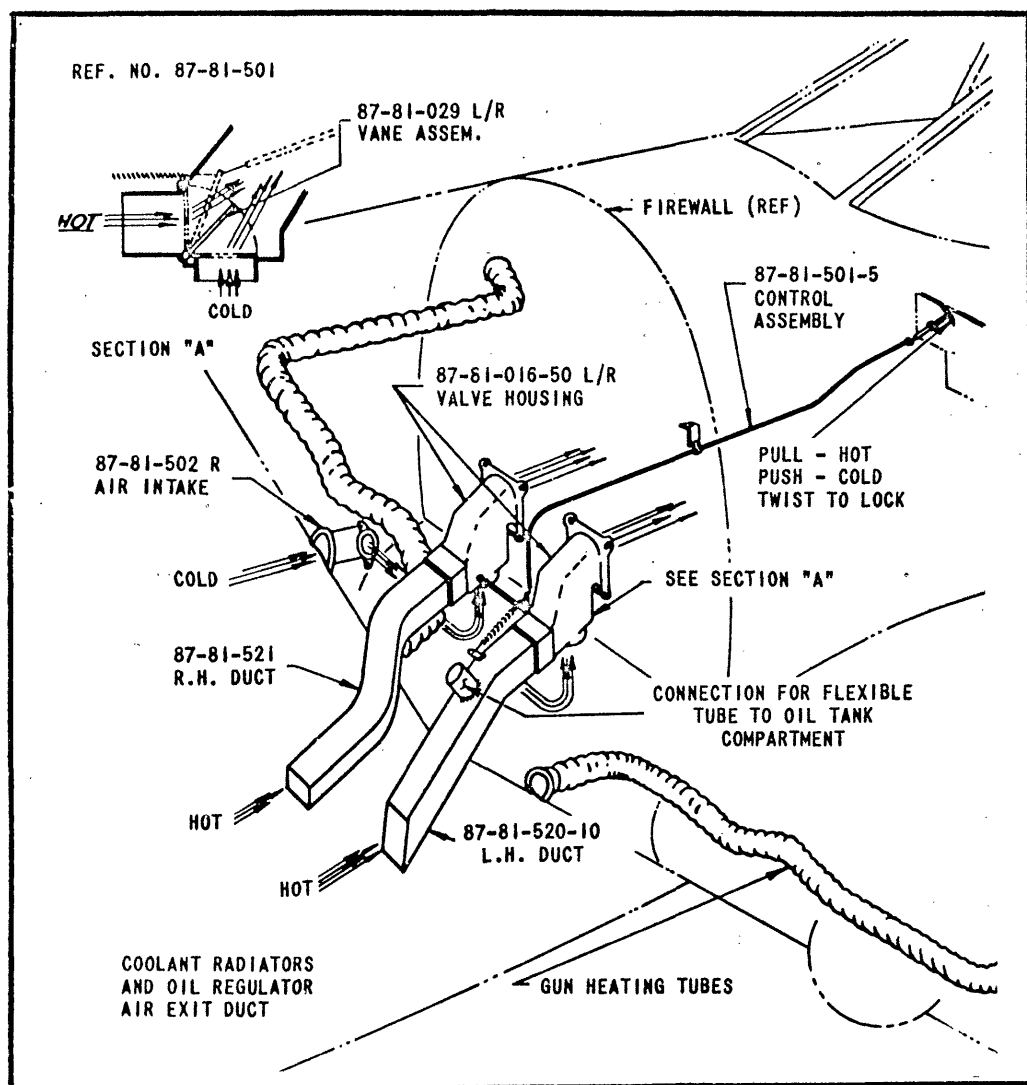

Figure 107 - Cockpit Heating and Ventilating System
a. General (drawing 87-81-501). - The heating and ventilating of the cockpit is accomplished by means of two ducts, inserted into the radiator and oil cooler air exit duct. The cold air is taken into the duct, formed by the sealing of web No. 1, nose rib No. 27 and the leading edge nose section of the right wing, through an opening in the leading edge of the right wing and wing fillet. A flapper valve, operated by a push-pull control, at the junction of the hot and cold air intake ducts governs the mixture of the hot and cold air passed into the cockpit. The ducts feed air into both the right- and left-hand sides of the cockpit at the floor line. (See figure 107.)
f. Wing Gun Heater. - The wing guns are heated through two openings in the leading edge of the wing in the radiator and oil cooler air exit duct. A flexible hose conveys the hot air to the gun installations. (See figure 107.)